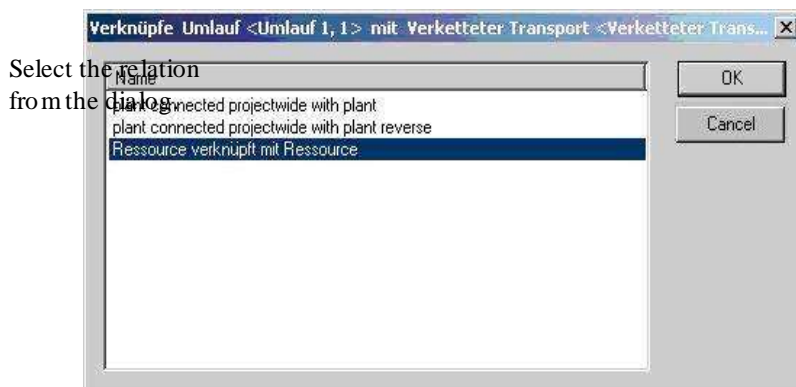

Figure 40: Select Circulation for Relation Dialog
- 3) Select the relation. *Please refer to the Figure 40.*
- 3) Select the relation in the dialog. *Please refer to the Figure 40.*
- 4) Select the relation in the dialog. Please refer to the Figure 40.